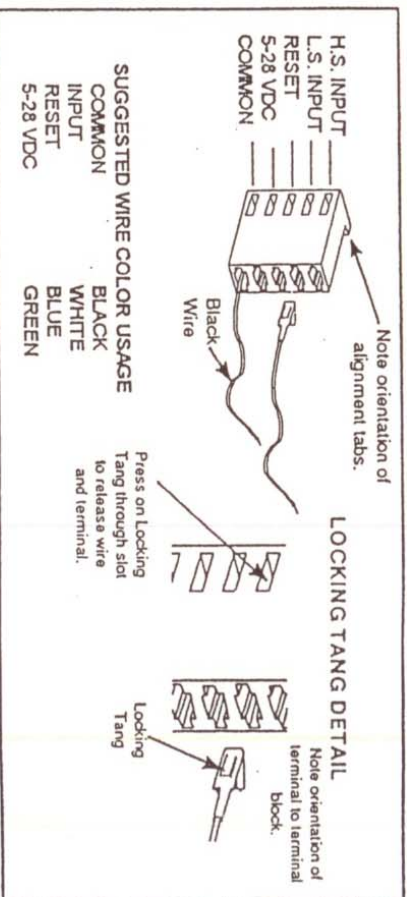

Figure 4-1. Locking Tang Orientation and Wire Usage
1. Insert wired terminals into the terminal housing. Be certain to orient the locking tang on the terminal as shown in Figure 4-1.